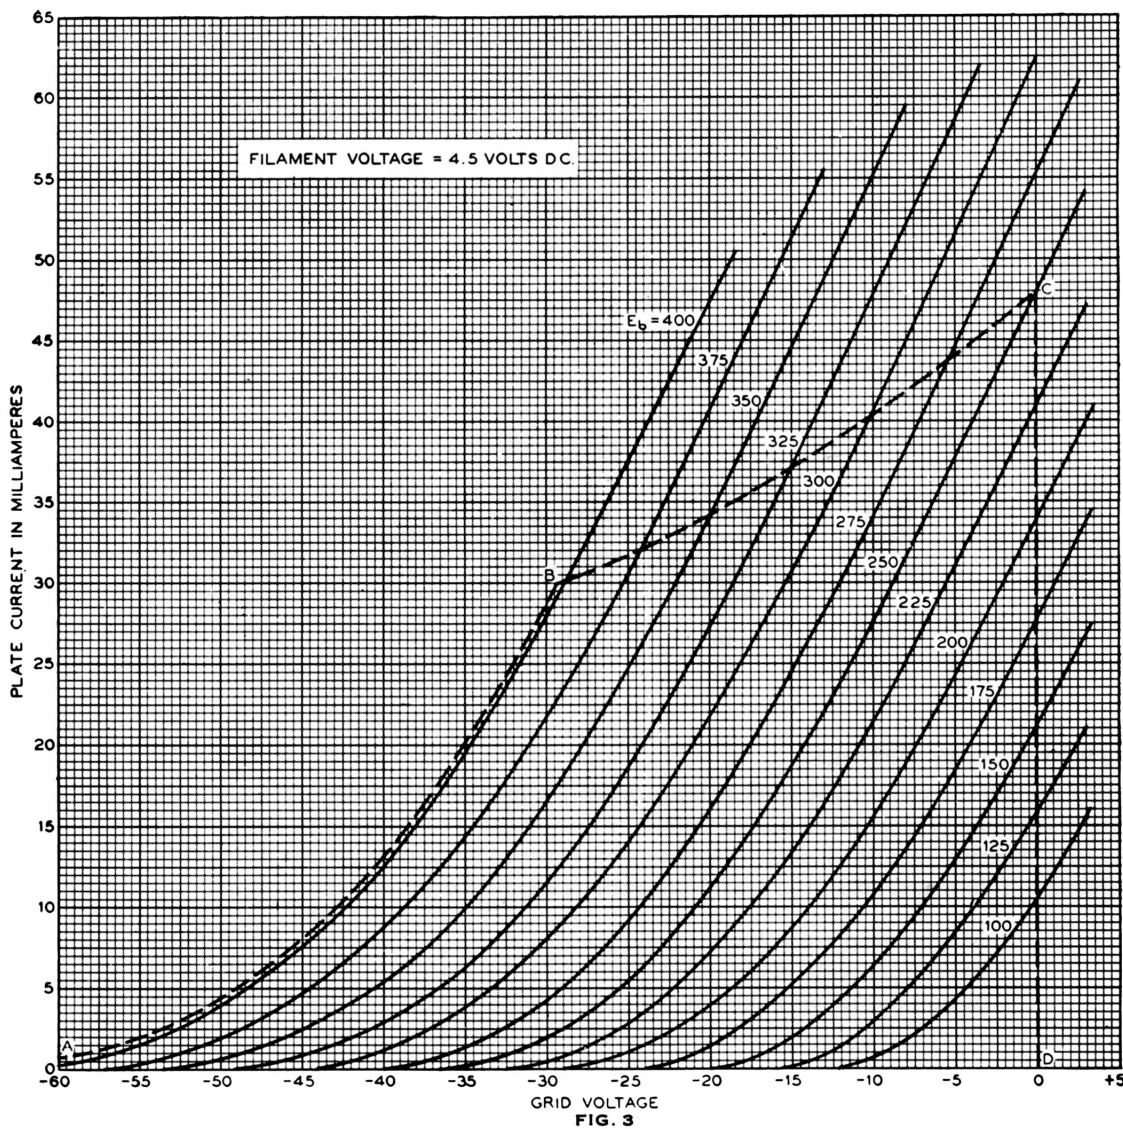
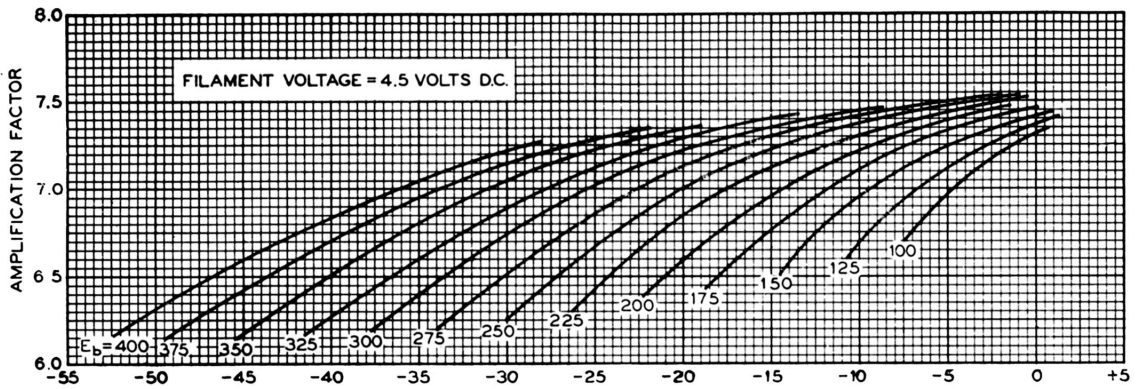
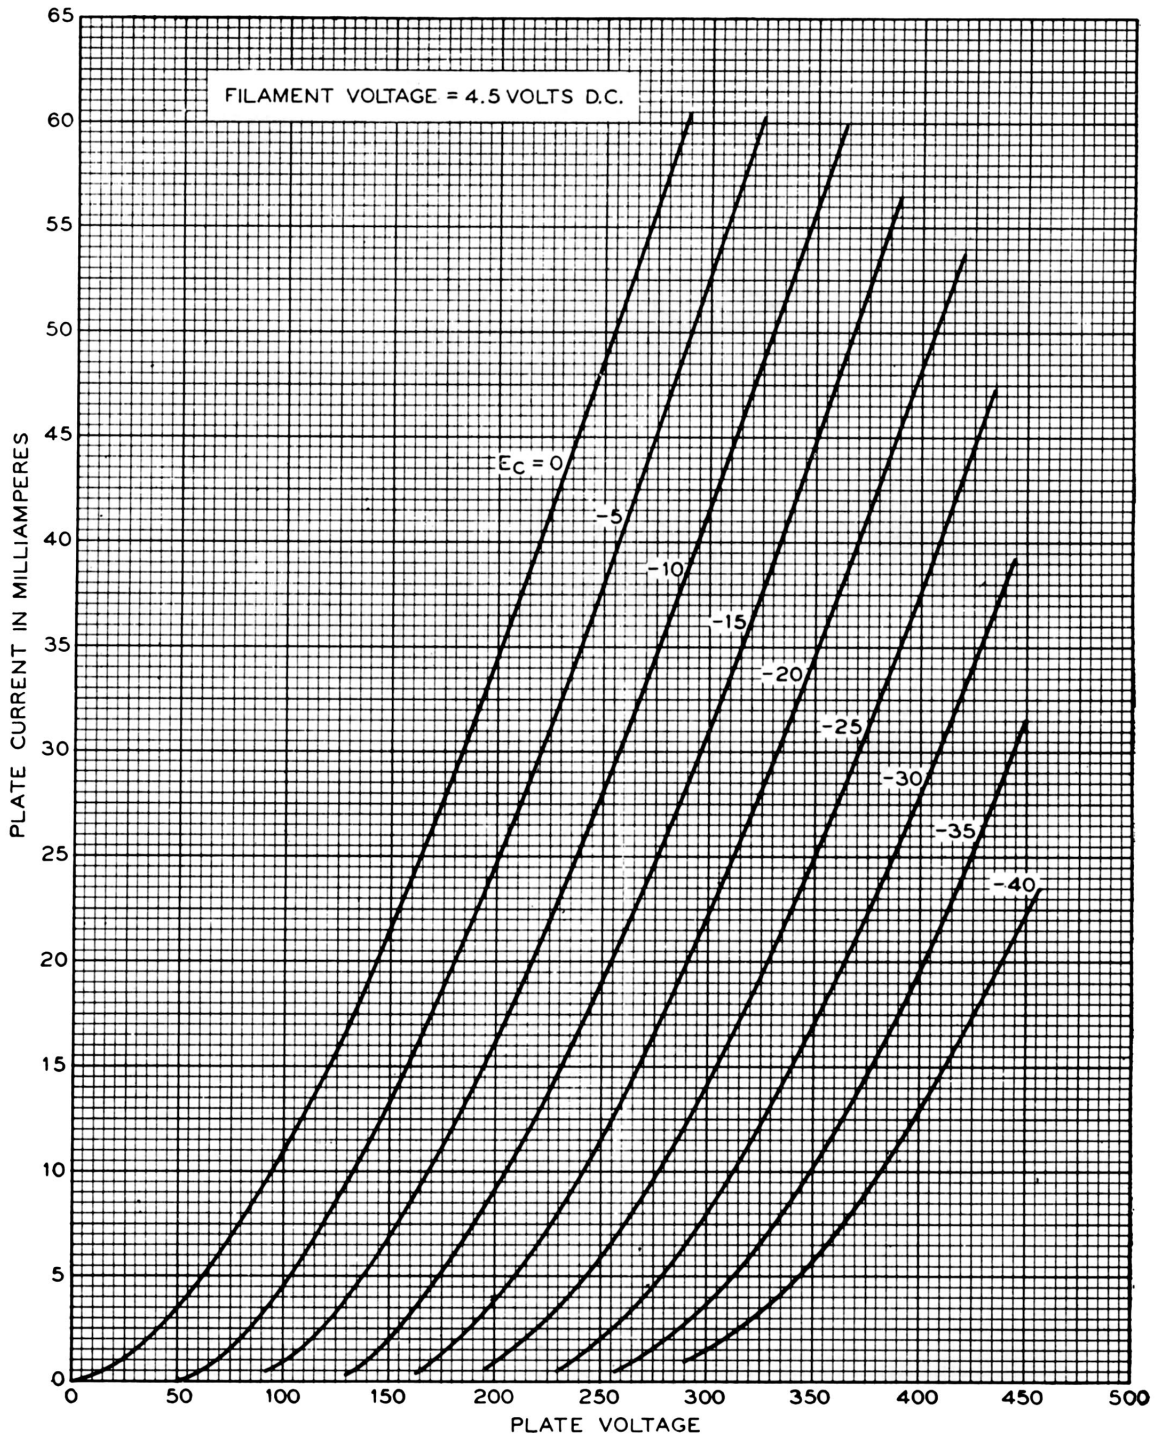

FIG. 3
FIG. 4
FIG. 7
**Characteristics**—Plate current characteristics of a typical 205D tube are shown in Figure 3 as functions of grid voltage for several values of plate voltage. Corresponding amplification factor, plate resistance, and transconductance characteristics are given in Figures 4, 5 and 6, respectively. Plate current characteristics as functions of plate voltage for several values of grid voltage are shown in Figure 7. These characteristics are for direct-current filament supply with the grid and plate voltages measured from the negative end of the filament. When alternating-current filament supply is used, the same characteristics are applicable if 2.6 is added to the numerical value of each grid bias.
Permissible operating grid and plate voltages for Class A operation are included within the area, ABCD, in Figure 3. Amplification factor, plate resistance, transconductance, and performance data are given in Table I for a number of typical operating conditions represented by selected points within this area. A less severe operating condition should be selected in preference to a maximum operating condition wherever possible. The life of the tube at maximum conditions may be shorter than at less severe conditions.